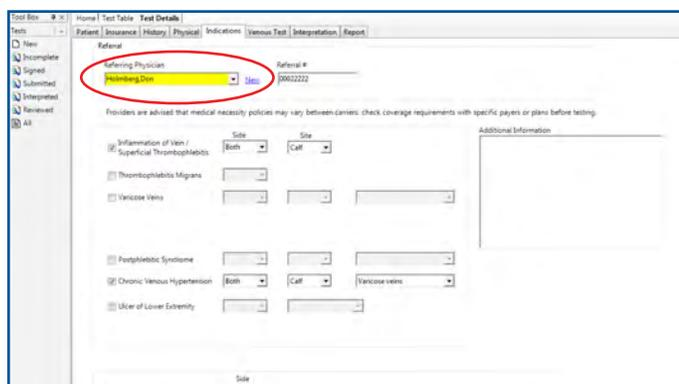

FIGURE 2.7 - Indications Tab and "Referring Physician" Dropdown
7. Click the Indications tab (Figure 2.7), then enter: